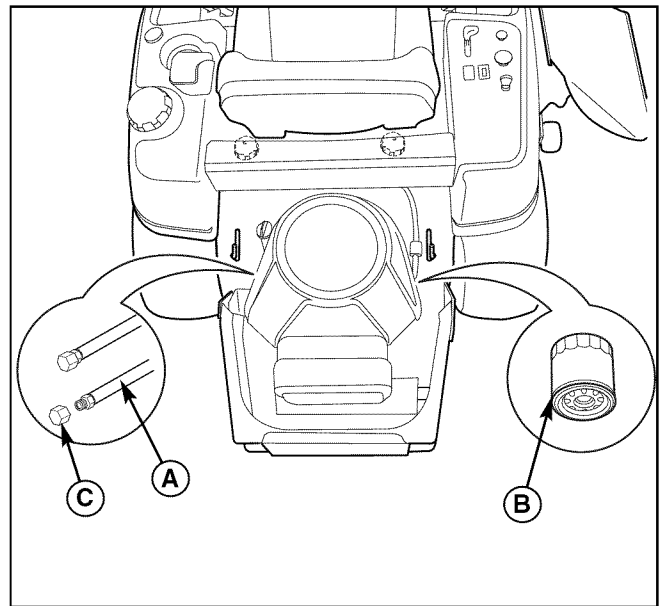

Figure 28. Change Engine Oil & Filter
2. The oil drain hose (A, Figure 28) is located on the left side of the engine. Remove the oil drain hose from its storage position and re-position the oil drain hose over the side of the engine deck and place a small pan beneath it to catch the old engine oil.
3. Using the appropriate tools, remove the cap (C) from the oil drain tube.
5. Place an absorbent shop cloth under the engine oil filter (B). Remove the oil filter and discard.